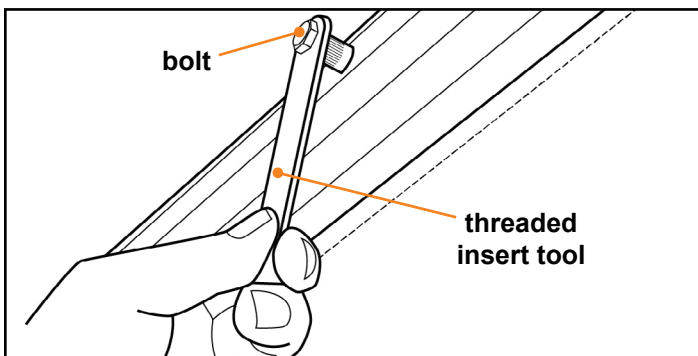

Fig.40
6. Place the bolt through the threaded insert tool and into the threaded insert fastener. Then place the entire assembly into the previously drilled hole (Fig.40).